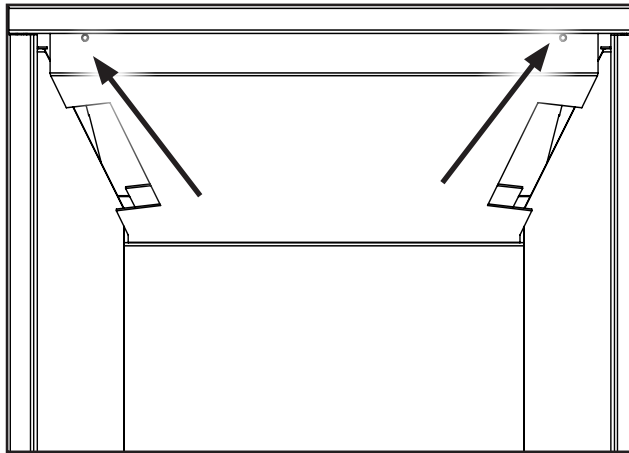

Figure 42. Top Panel Screws.
2. Remove the top porcelain panel by un-screwing it from the firebox baffle as shown in Figure 42 using a T20 screwdriver.